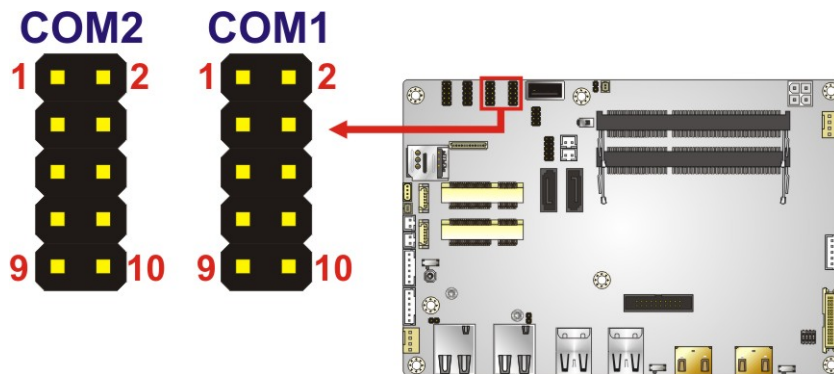

Figure 3-19: RS-232 Serial Port Connector Locations
- CN Location:** See **Figure 3-19**